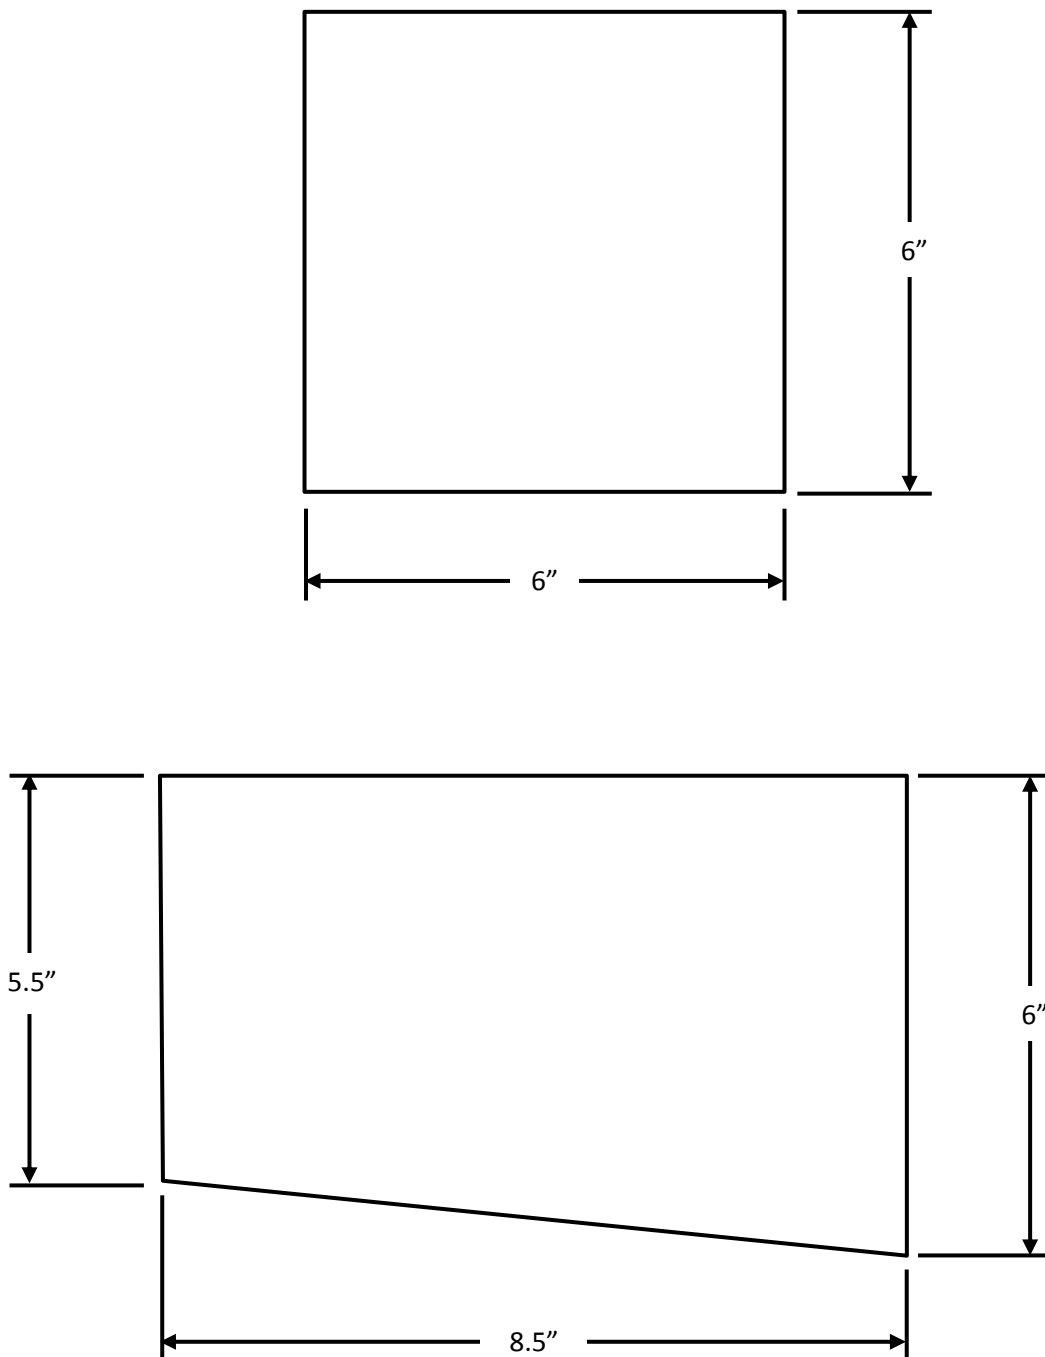

FIGURE 5: Sheet metal guards for use during firewall cutting operation
- i. Insert the small sheet metal cutting guard shown in figure 5 under the firewall in the area adjacent to the cutout to prevent damage to the surrounding components when cutting wheel “break through”.
- j. Tape the large sheet metal cutting guards shown in figure 5 to the aft side of the firewall in the area of the cutout to prevent cutting debris from going behind the firewall.